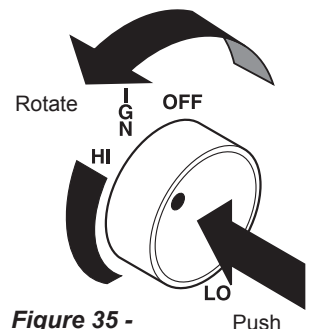

**Figure 35 -
10. Push in control knob and turn counterclockwise  to the HIGH setting. At this location the control knob will pop out when positioned correctly. The knob can now be positioned at any position between HIGH and LOW. *Figures 35 and 36*